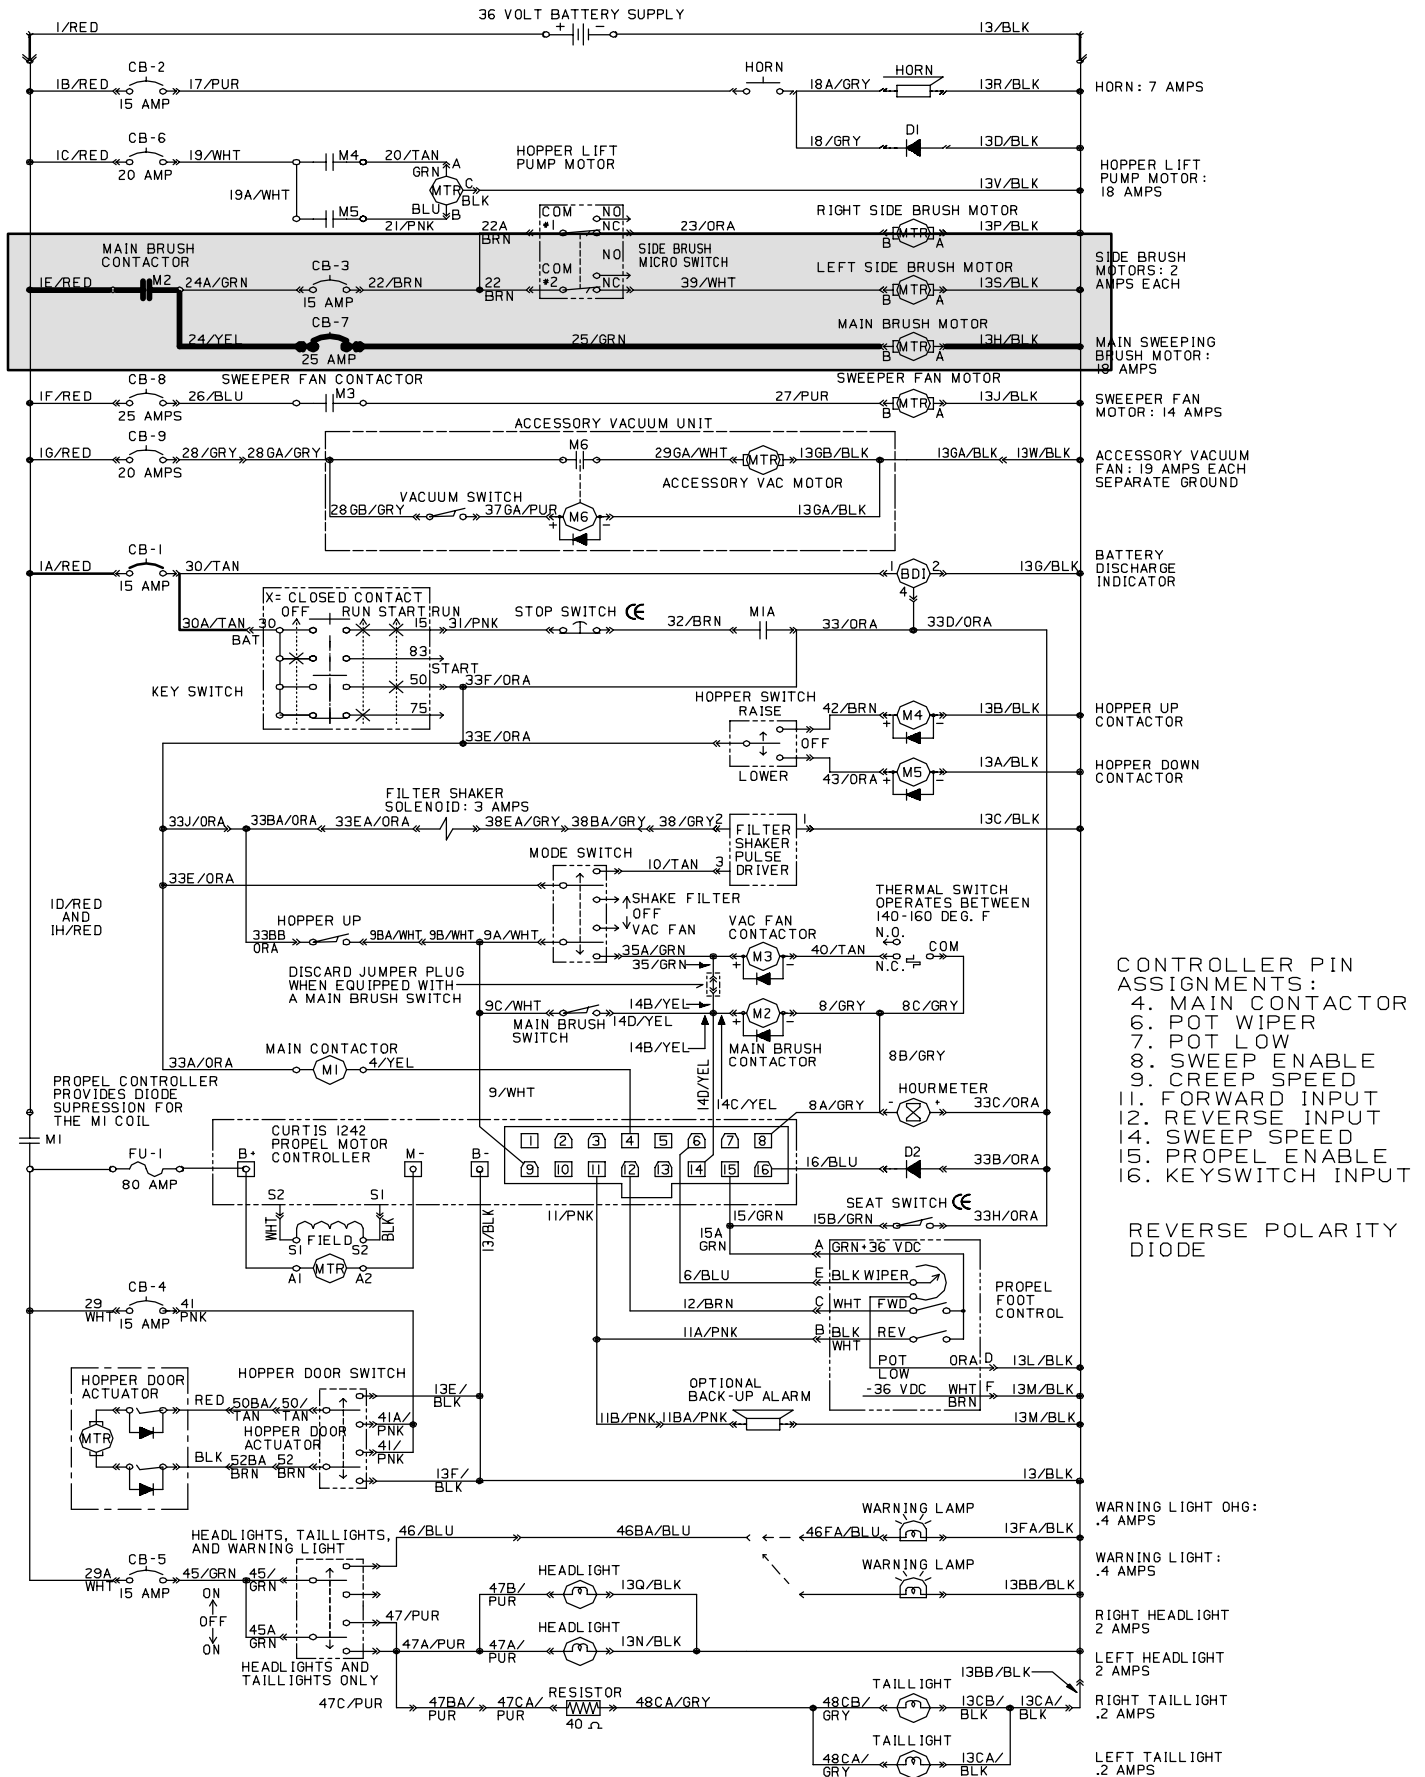

Fig. 9
2. Power circuit. (see fig. 9)